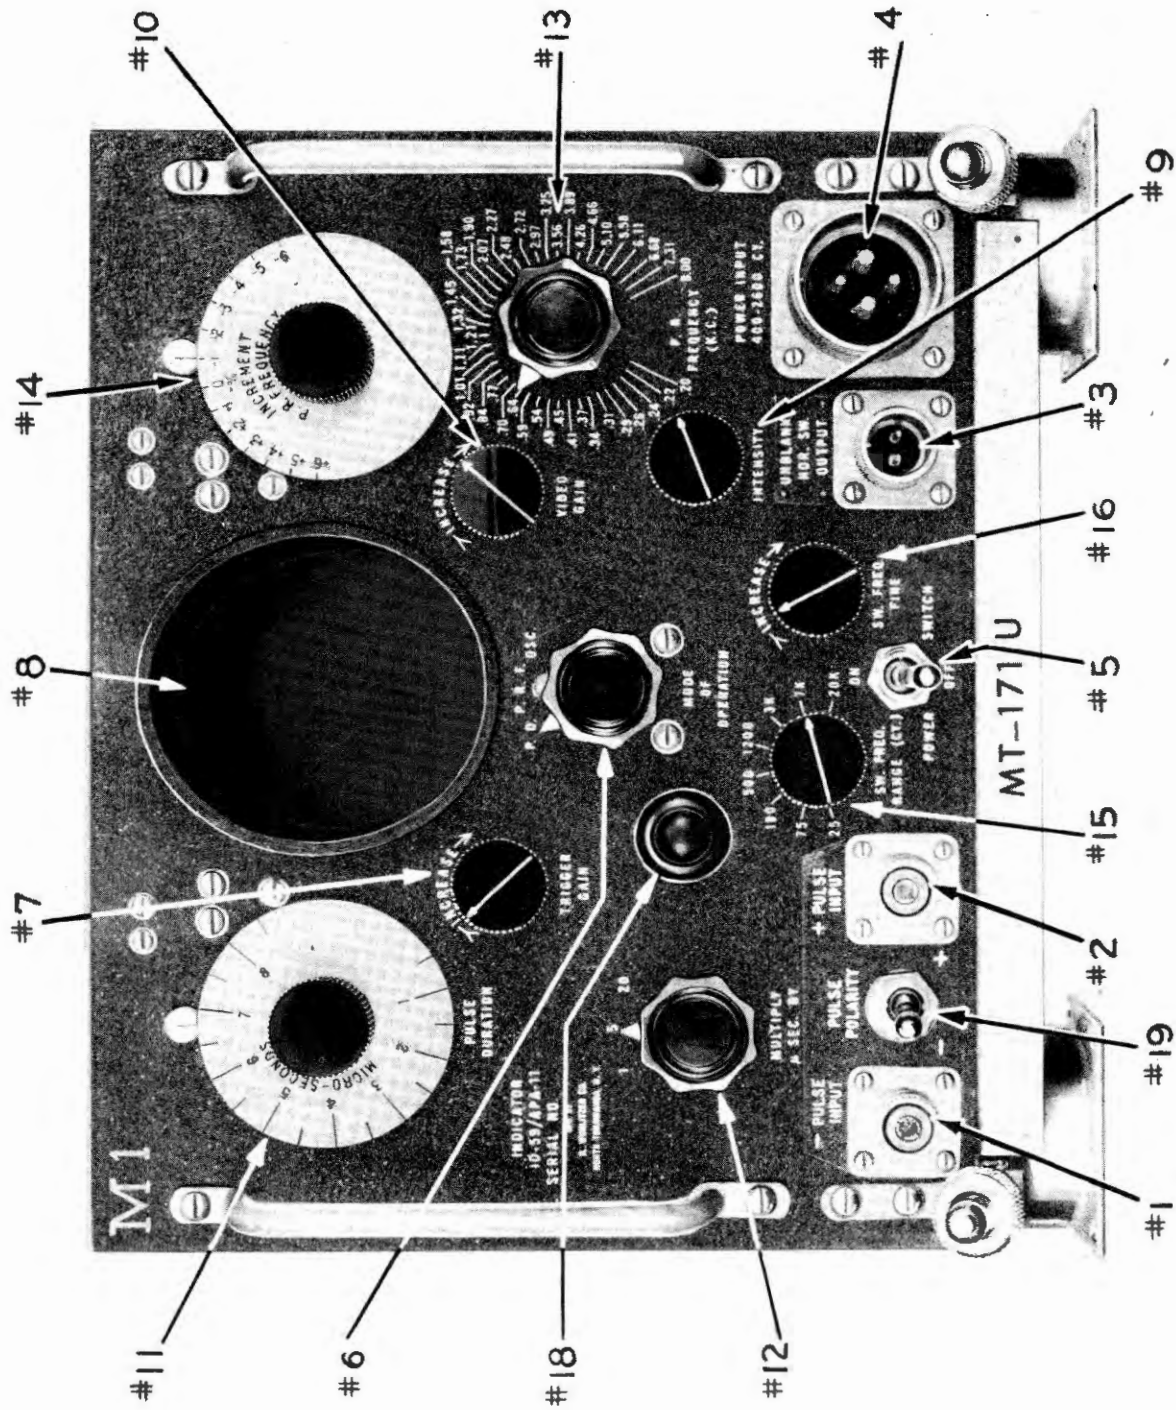

Figure 2-1. Indicator ID-59/APA-11—Control Panel
All numerical references to controls will be found in figure 2-1.
(1) Connect cable from receiving equipment supplying negative pulsed voltage to connector socket SO-239, marked "−PULSE INPUT" (#1). (See figures 2-1 and 8-2.)
(2) Connect cable from receiving equipment supplying positive pulsed voltage to connector socket SO-239, marked "+PULSE INPUT" (#2). (See figures 2-1 and 8-2.)
(3) Connect cable from receiving equipment using horizontal sweep and requiring unblanking pulse to Socket AN-3102-12S-3P, marked "UNBLANK HOR. SW. OUTPUT" (#3). (See figures 2-1 and 8-2.)
(4) Connect cable from power source to connector socket AN3102-22-4P, marked "POWER INPUT 400-2600 CY" (#4). (See figures 2-1 and 8-2.)
a. **TO START.**—Throw "POWER SWITCH" (see figure 2-1, #5) to "ON" position.
(1) Turn "MODE OF OPERATION" switch (fig. 2-1, #6) to "P.D."
(2) Adjust associated equipment to supply Indicator ID-59/APA-11 with either (or both) negative or positive pulsed voltage. Throw "PULSE POLARITY" (#19) switch to left or right for required signal.
(3) Adjust "TRIGGER GAIN" (#7) control to obtain a stationary pattern on screen of cathode-ray tube (#8).
(4) Turn "INTENSITY" control (#9) until beam is at suitable brilliancy. Avoid blooming of spot at left edge of trace.
(5) Set "VIDEO GAIN" (#10) to give a convenient vertical deflection between 1/4 and 3/4 inches.
(6) Turn "PULSE DURATION" dial (#11) to set left edge of trace near left side of screen of cathode-ray tube (#8).
(7) Turn "MULTIPLY SEC. BY" switch (#12) to 1, 5, or 20, separate the start and finish of the pulse, keeping each well on the screen.
(8) Using "PULSE DURATION" dial (#11), set point on right side of pulse 3 db down (approximately 30 percent) from peak to vertical index line. Read microsecond setting on this dial.
(9) Using "PULSE DURATION" dial (#11), set point on left side of pulse 3 db down (approximately 30 percent) from peak to vertical index line. Again read the microsecond setting. Difference between readings of (8) and (9) multiplied by indicated multiplying factor of (7) above is the pulse duration time in microseconds.
(#19) to "-" (left position). (See figures 2-1 and 8-2.)